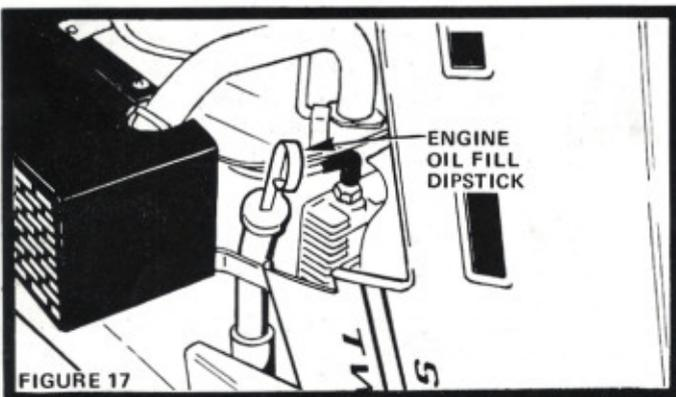

FIGURE 17
- Refill Engine Oil (Fig. 17). In summer use S.A.E. 30 (SC, SD or SE) Oil. In winter (below 32°F.) use S.A.E. 10W30 (SC, SD or SE) or 10W40 (SC, SD or SE). In extreme cold (below 0°F.) use S.A.E. 5W20 (SC, SD or SE). Capacity is 3 - 1/2 pints. NOTE: DO NOT OVER-FILL.
Several minutes after stopping Engine, check Engine Oil Level with Tractor on level ground. Wipe dipstick (Fig. 17) clean, push it down tight for a few seconds, remove and read Oil Level. If necessary, add Oil until "FULL" mark is reached. In summer use S.A.E. 30 (SC, SD or SE) Oil. In winter (below 32°F.) use S.A.E. 10W30 (SC, SD or SE) or 10W40 (SC, SD or SE). In extreme cold (below 0°F.) use S.A.E. 5W20 (SC, SD or SE). NOTE: DO NOT OVER-FILL.